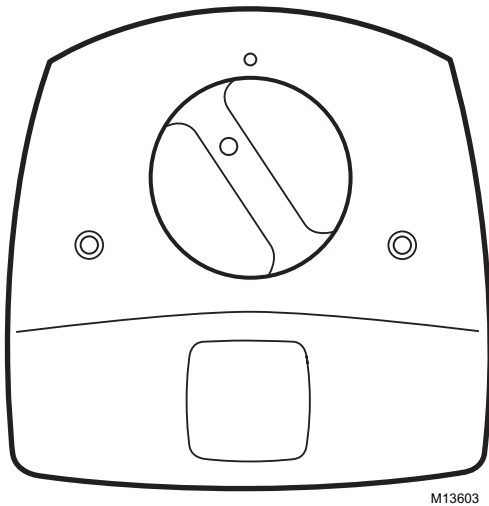

Fig. 16. Position bulb for insertion back into the lamp base.
- Insert the bulb into the base with the lamp light indicator at the eleven o'clock position. Continue pushing and gently rotating counterclockwise until the lamp handle inserts fully into the base. See Fig. 16.